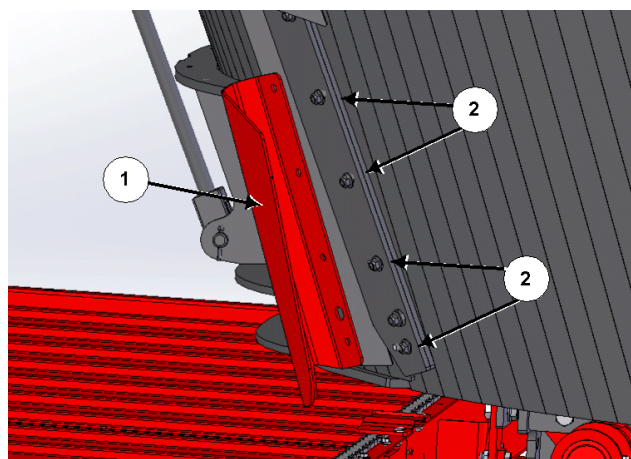

Figure 9: Attach the bent shield to the tub
11. Attach the left bent shield (1) to the tub, as per *Figure 9*.
- a. Remove the bottom 4 lock nuts (2) on the left tub door slide cap.
- b. Place the bent shield (1) over the 4 carriage bolts.
- c. Fasten with the 4 lock nuts (2) removed earlier.